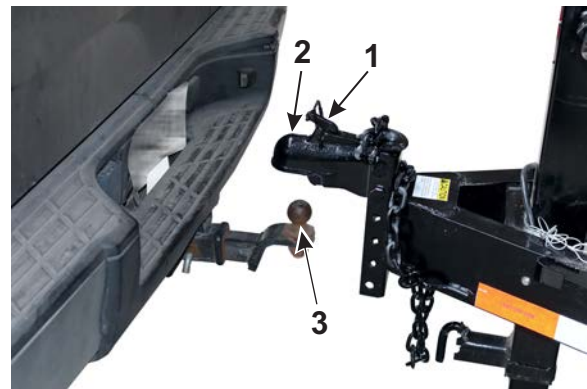

Figure 3-5 – Align Hitch Receiver and Hitch Ball
3. Remove the coupler safety latch pin and open the coupler lock (1, Figure 3-5). **NOTE:** When the coupler lock has been opened, the coupler will drop onto the hitch ball.
4. Carefully back the tow vehicle, aligning the hitch ball (3, Figure 3-5) with and under the coupler (2, Figure 3-5).